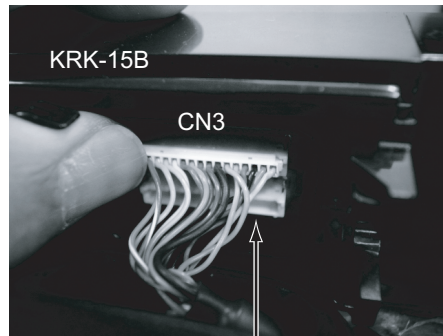

Fig.6
- (1) Insert one lead wire with connector of the KCT-71 into the connector (CN3) of the KRK-15B. (Fig. 6)